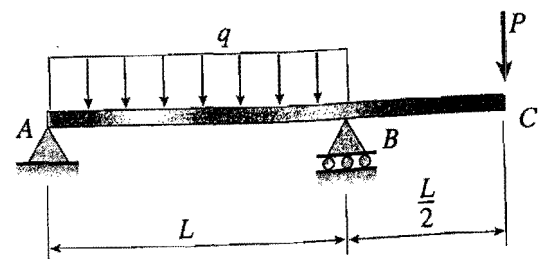

Fig. 5
5. A simple beam with an overhang supports a uniform load of intensity q on span AB and a concentrated load P at end C of the overhang (Fig. 5). Determine the deflection δ_C and angle of rotation θ_C at point C. (20 %).